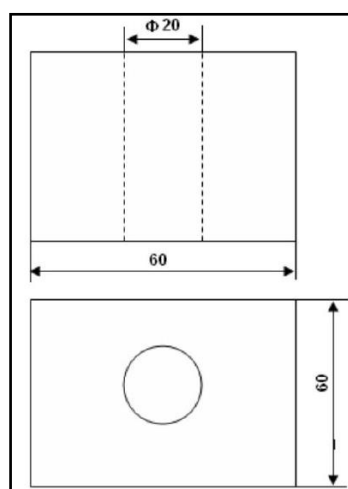

Figure 1.3. Spur gear
2. Design a pattern for the casting which is to be made of steel by considering Shrinkage and Draft allowance as shown in the Figure 1.3.